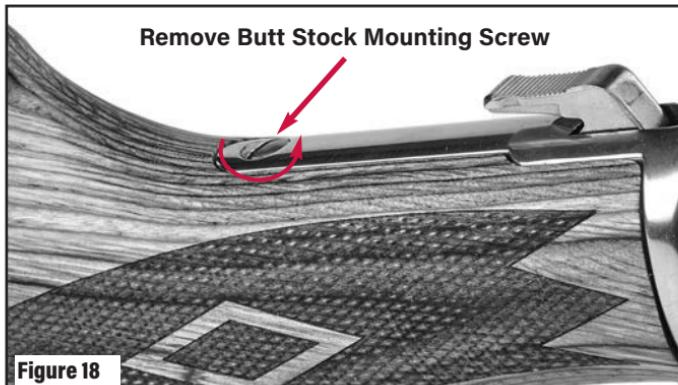

Figure 18
10. Remove the butt stock mounting screw located on the tang behind the hammer (sometimes called the tang screw) by turning it counterclockwise. See Figure 18.